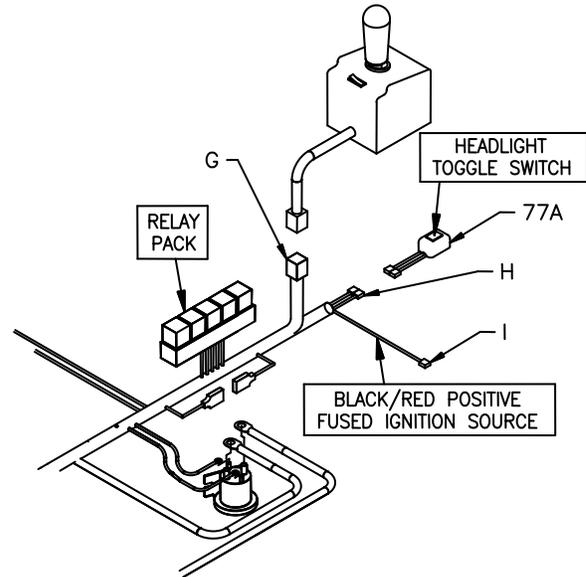

Figure 17. Internal Cab Wires
11. Pull the two BLACK wires (H), BLACK/RED wire (I), and the 9 Pin Molex connector (G) from the engine compartment into the cab through the 1-1/4" diameter hole in the firewall.
13. Connect the Two Tab Connectors (H) to **MSC04747** Headlight Toggle Switch (77A) as illustrated in Figure 17.